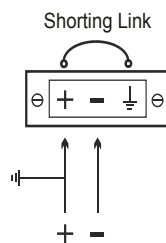

Figure 2-10 Shorting Link
- 1 For installations with -48V earthed a shorting link must be added (see Figure 2-10).